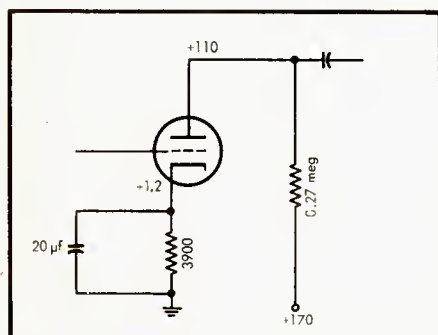

Fig. 1. Typical schematic of input stage of a high-gain amplifier with cathode resistor bypassed in the customary fashion.
A 20-μf capacitor at the power line frequency of 60 cps has a reactance of about 130 ohms. *Figure 1* shows a common circuit of a triode with the 20-μf capacitor placing the cathode 130 ohms above ground and the 3900 ohm resistor providing a d.c. bias on the tube of 1.2 volts.
The writer had long used a standard two-way speaker, with the woofer in an 8-cu. ft. bass-reflex box of conventional design, and while the reproduction quality has been considered excellent, the low-frequency output did not compare with that of a good theatre system. Thinking from this point, the next step appeared to be in the direction of a corner speaker, yet utilizing the reflex action of a vented cabinet. Basically, therefore, the new design could still be described as a bass-reflex cabinet, but it occupies the corner of a room and is arranged so that the vents are loaded by a horn comprised of the walls and the sides of the cabinet enclosure. The plan view of the cabinet is shown in *Fig. 1*, with the vent openings A-A' along the sides. Thus the vents are loaded by the straight-sided "horn" between the wall and the cabinet.
Fig. 1 (above). Plan view of the new design, showing vents at either side between the cabinet and the wall and the horn loading provided by the wall and the cabinet sides.
Getting down to a specific design, therefore, the cabinet takes the shape shown in Fig. 1, for a cross section at the plane of the low-frequency cone, and at (A) of Fig. 3 at the plane of the center of the TV picture tube. The top of the low-frequency cabinet has the outline shown in the solid line at (B), with the superstructure shown by the dotted lines. The top is 39 inches from the floor, and the corners of the top meet the side wall $36\frac{1}{2}$ inches from the corner. Allowing for the volume of the speaker well and speaker end of the tube enclosure, the net volume of the cabinet is 8.5 cu. ft. This does not include the